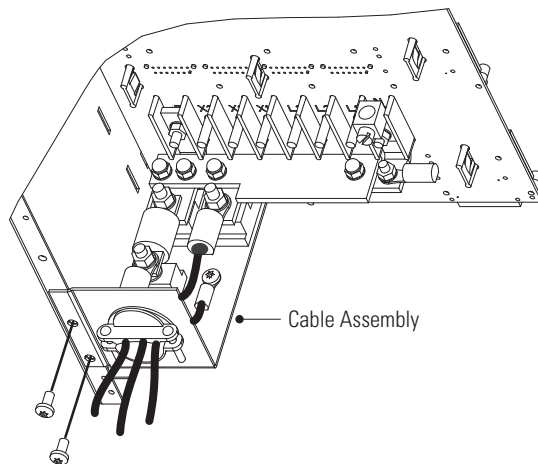

Figure 45. Battery Cable Assembly Installation
12. Align the screw holes of the cable assembly's entry plate with holes on the cabinet side cover as shown in Figure 45. Secure the entry plate with screws supplied with the cable assembly.
13. If the battery cable will be installed in customer-supplied flexible or other conduit (as required by local wiring codes), loosen the two screws holding the strain-relief clamp shown in Figure 45. Remove the clamp by loosening the star nut on the inside of the entry plate, leaving the nut in place. Replace the clamp with a panel-to-conduit feed through and secure it with the star nut.